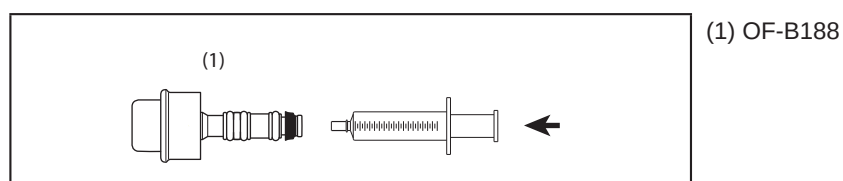

Figure 1.5.11
- 7) Using a syringe filled with water, flush the lumen of the irrigation tube (OF-B113) with 15 mL of water. (see Figure 1.5.11, p110)
- 17) Using a syringe filled with air, flush the lumen of irrigation tube (OF-B113) with 15 mL air to purge residual water. (see Figure 1.5.11, p110)
- 8) Using a syringe filled with disinfecting solution, inject 10 mL of disinfecting solution directly into the lumen of the irrigation tube (OF-B113). (see Figure 1.5.11, p110)